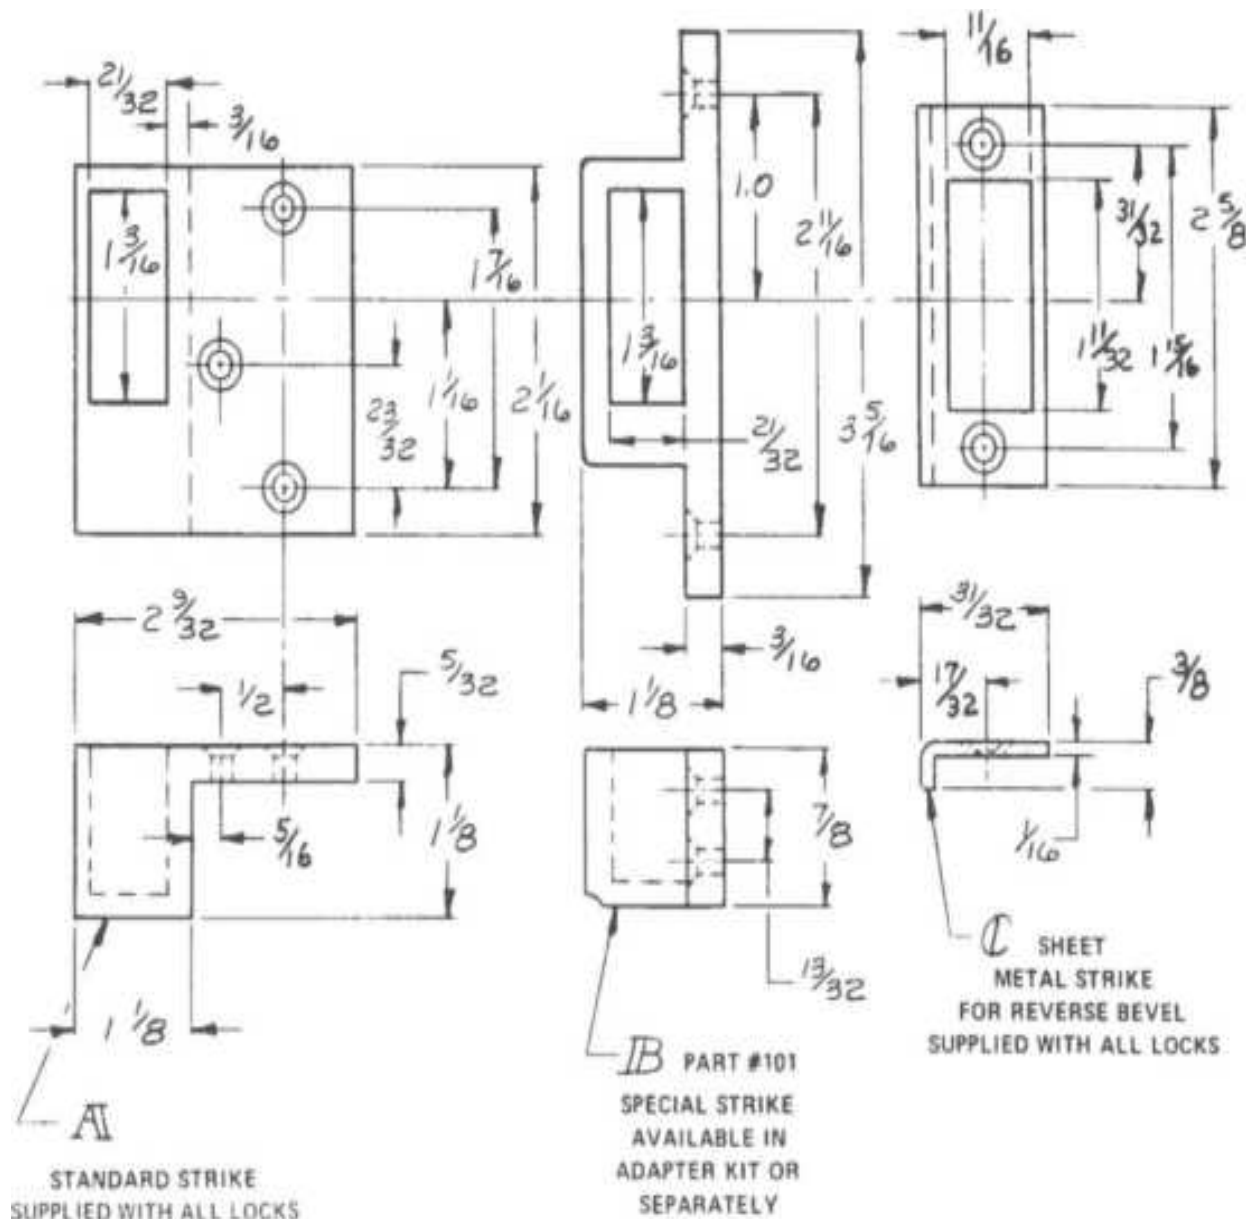

**Figure 18.15** Standard and optional strikes. (*Simplex Access Controls Corp.*)
***Wood door and frame installation.*** Drill two holes, ¾ and 1⅝ inches in diameter, a distance of 2⅝ inches from the door edge. Key bypass models will require an additional ⅞-inch key cylinder hole. All parts are provided for a complete wood door and frame installation. Included are two styles of strikes (standard) to suit any wood door frame (A in Fig. 18.15 ).
**Metal door and frame installation.** An adapter kit containing a special surface-mounted strike (*B* in Fig. 18.15) is available. The special strike is fastened to the inside surface of the metal frame and eliminates the need to cut or mortise the frame for the standard strike. The adjustable riser plate raises the lock housing to ensure the proper alignment of the latch or deadbolt with the special strike.